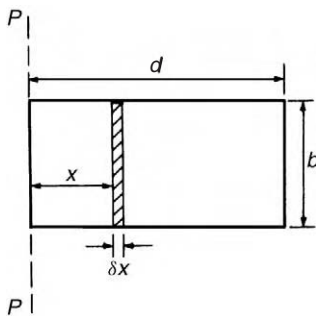

Figure 7.7
**For example**, the second moment of area of the rectangle shown in Figure 7.7 about axis  $PP$  is found by initially considering an elemental strip of width  $\delta x$ , parallel to and distance  $x$  from axis  $PP$ . Area of shaded strip =  $b\delta x$ . Second moment of area of the shaded strip about  $PP = (x^2)(b\delta x)$ .